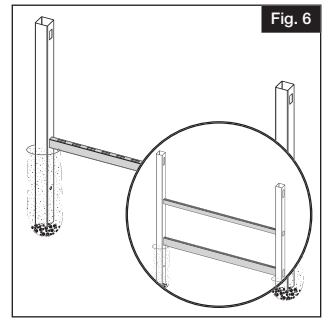

Fig. 6
- a. Insert bottom rail into bottom post hole routes of both posts (Fig. 6).